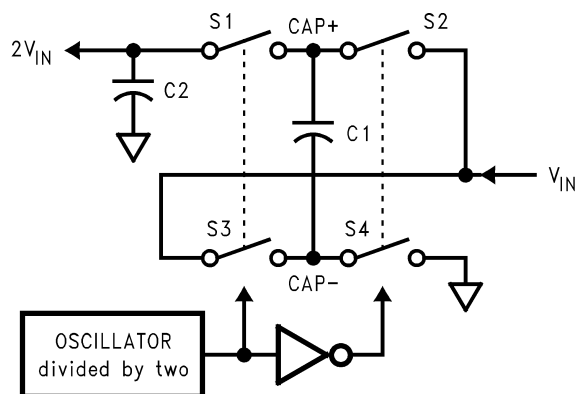

Figure 18. Voltage Doubler Principle
The doubler contains four large CMOS switches which are switched in a sequence to double the input supply voltage. Figure 18 illustrates the voltage conversion scheme. When S2 and S4 are closed, C1 charges to the supply voltage V_{IN} . During this time interval, switches S1 and S3 are open. In the next time interval, S2 and S4 are opened at the same time, S1 and S3 are closed, the sum of the input voltage V_{IN} and the voltage across C1 gives the $2V_{IN}$ and the voltage across C2 gives the $2V_{IN}$ at V_{DBL} output. V_{DBL} supplies the LDO regulator. It is recommended not to load V_{DBL} when V_{O5} has a load of 50mA. For proper operation, the sum of V_{DBL} and V_{O5} loads must not be more than 50mA.
- R_{SW} is the sum of the ON resistance of the internal MOSFET switches as shown in Figure 18